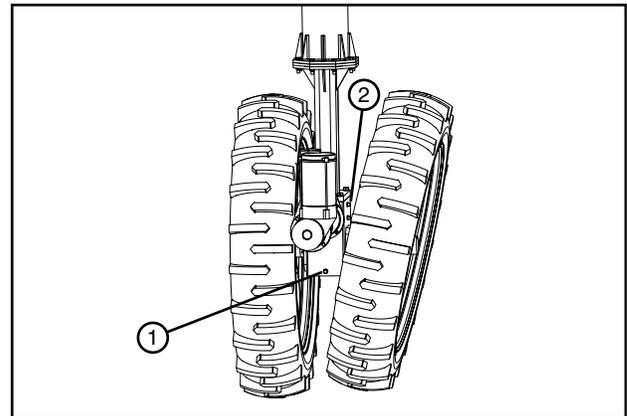

Figure 31-1 1. Drain Plug
2. Remove the drain plug from center drive gearbox. Drain oil into a container. See Figures 31-1 and 31-2.
1. Remove both the fill plug and drain plug from the steering motor gearbox, then drain the oil into a container. See Figure 31-1.